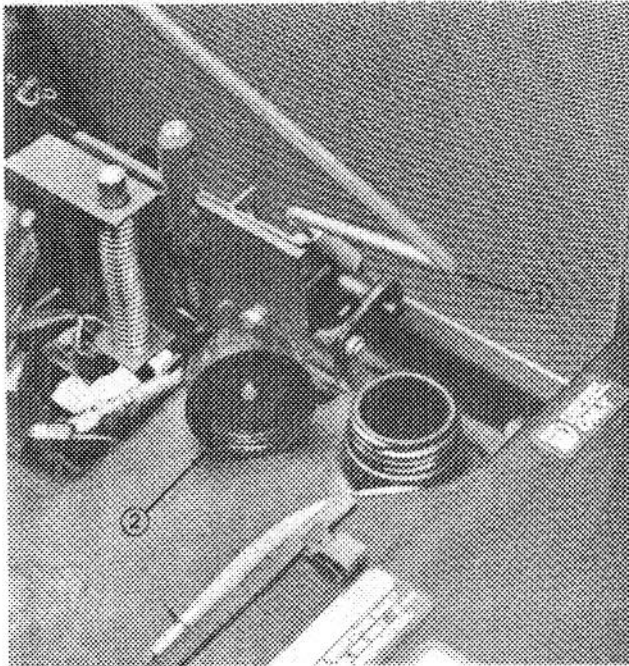

Figure 22
1. Tip seat forward and prop it with the support rod so it cannot fall accidentally (Fig. 22). Using a clean rag, clean area around fuel tank cap.
2. Remove cap from the fuel tank (Fig. 22) and fill the 8-1/2 gallon (30 L) tank to within 1 inch (25 mm) from the top with diesel fuel. Install fuel tank cap tightly after filling tank.